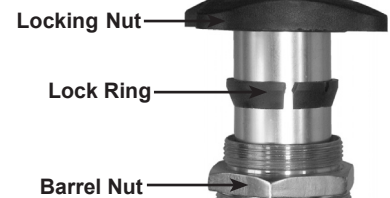

fig.2
3.2.4 Slide the locking nut, locking ring and the barrel nut onto the pick up probe of the pump (fig.2), screw the locking nut onto the barrel nut to lock the assembly to the pick up probe.